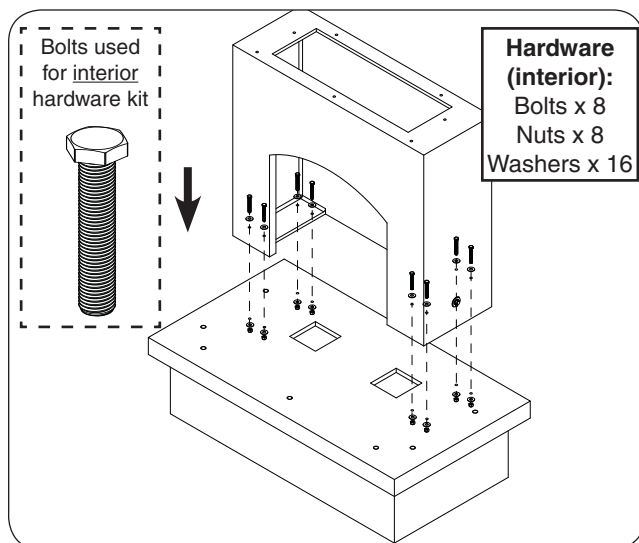

Fig. 15-3 Assemble body
3. Place the body piece on top of the shelf. Carefully align the pilot holes, and insert the hardware (interior hardware kits) in the order shown in Fig. 15-3. Hand tighten, then use two $\frac{3}{4}$ " open end wrenches (or equivalent) to fasten.